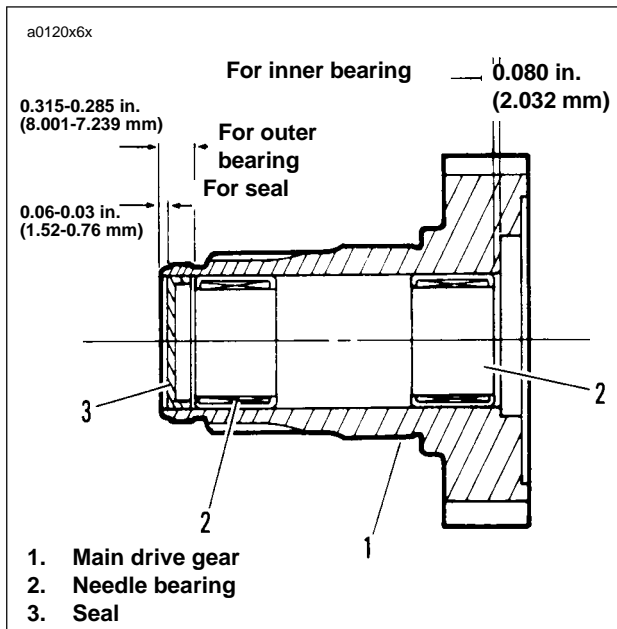
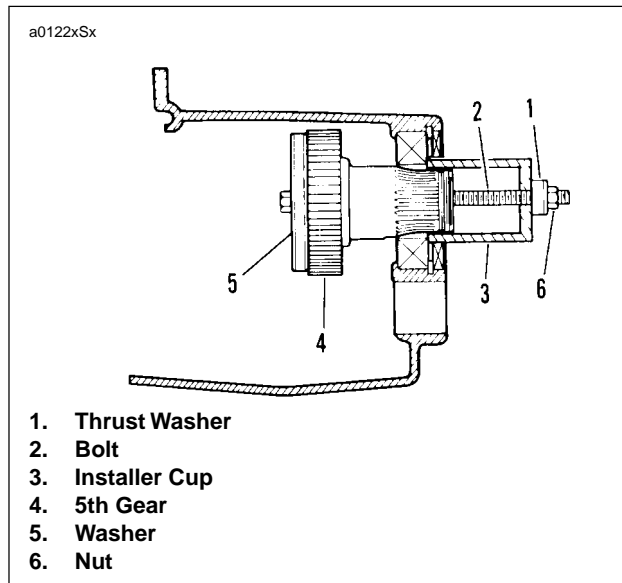

Figure 6-45. Main Drive Gear Assembly
Figure 6-49. Main Drive Gear Installation
3. See Figure 6-45. From inside case tap out seal at end of mainshaft 5th gear. Discard seal.
- See Figure 6-49. Use MAIN DRIVE GEAR REMOVER AND INSTALLER (Part No. HD-35316-A) for assembly.
- Take bolt (2) and place washer (5) followed by main drive gear (4) over end of bolt.
- Insert threaded end of bolt (2) through installer cup (3) and thrust washer (1).
- Thread nut (6) onto end of bolt (2). Tighten nut (6) until shoulder on gear (4) bottoms against inner race of bearing.
- See Figure 6-45. Tap in new seal (3) at threaded end of 5th gear.